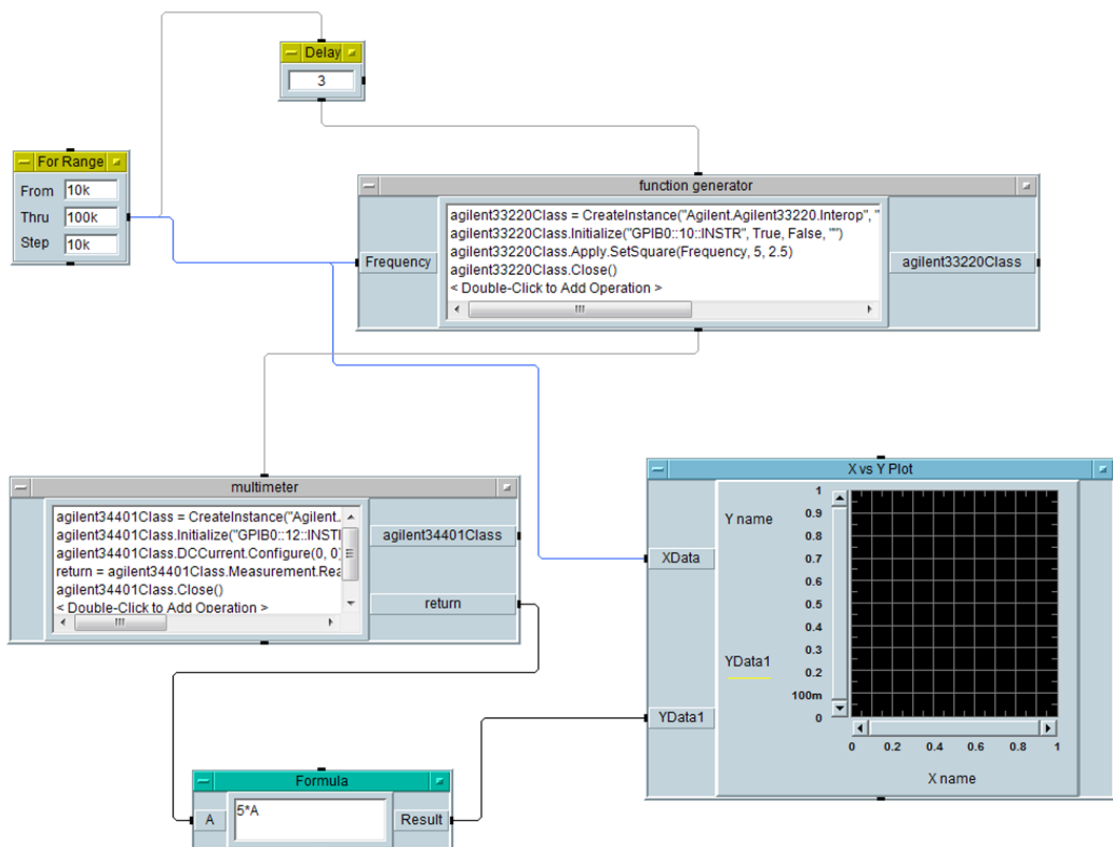

Fig. 5: Final VEE configuration for Agilent 33220A
- Complete the configuration as shown in Fig. 5.